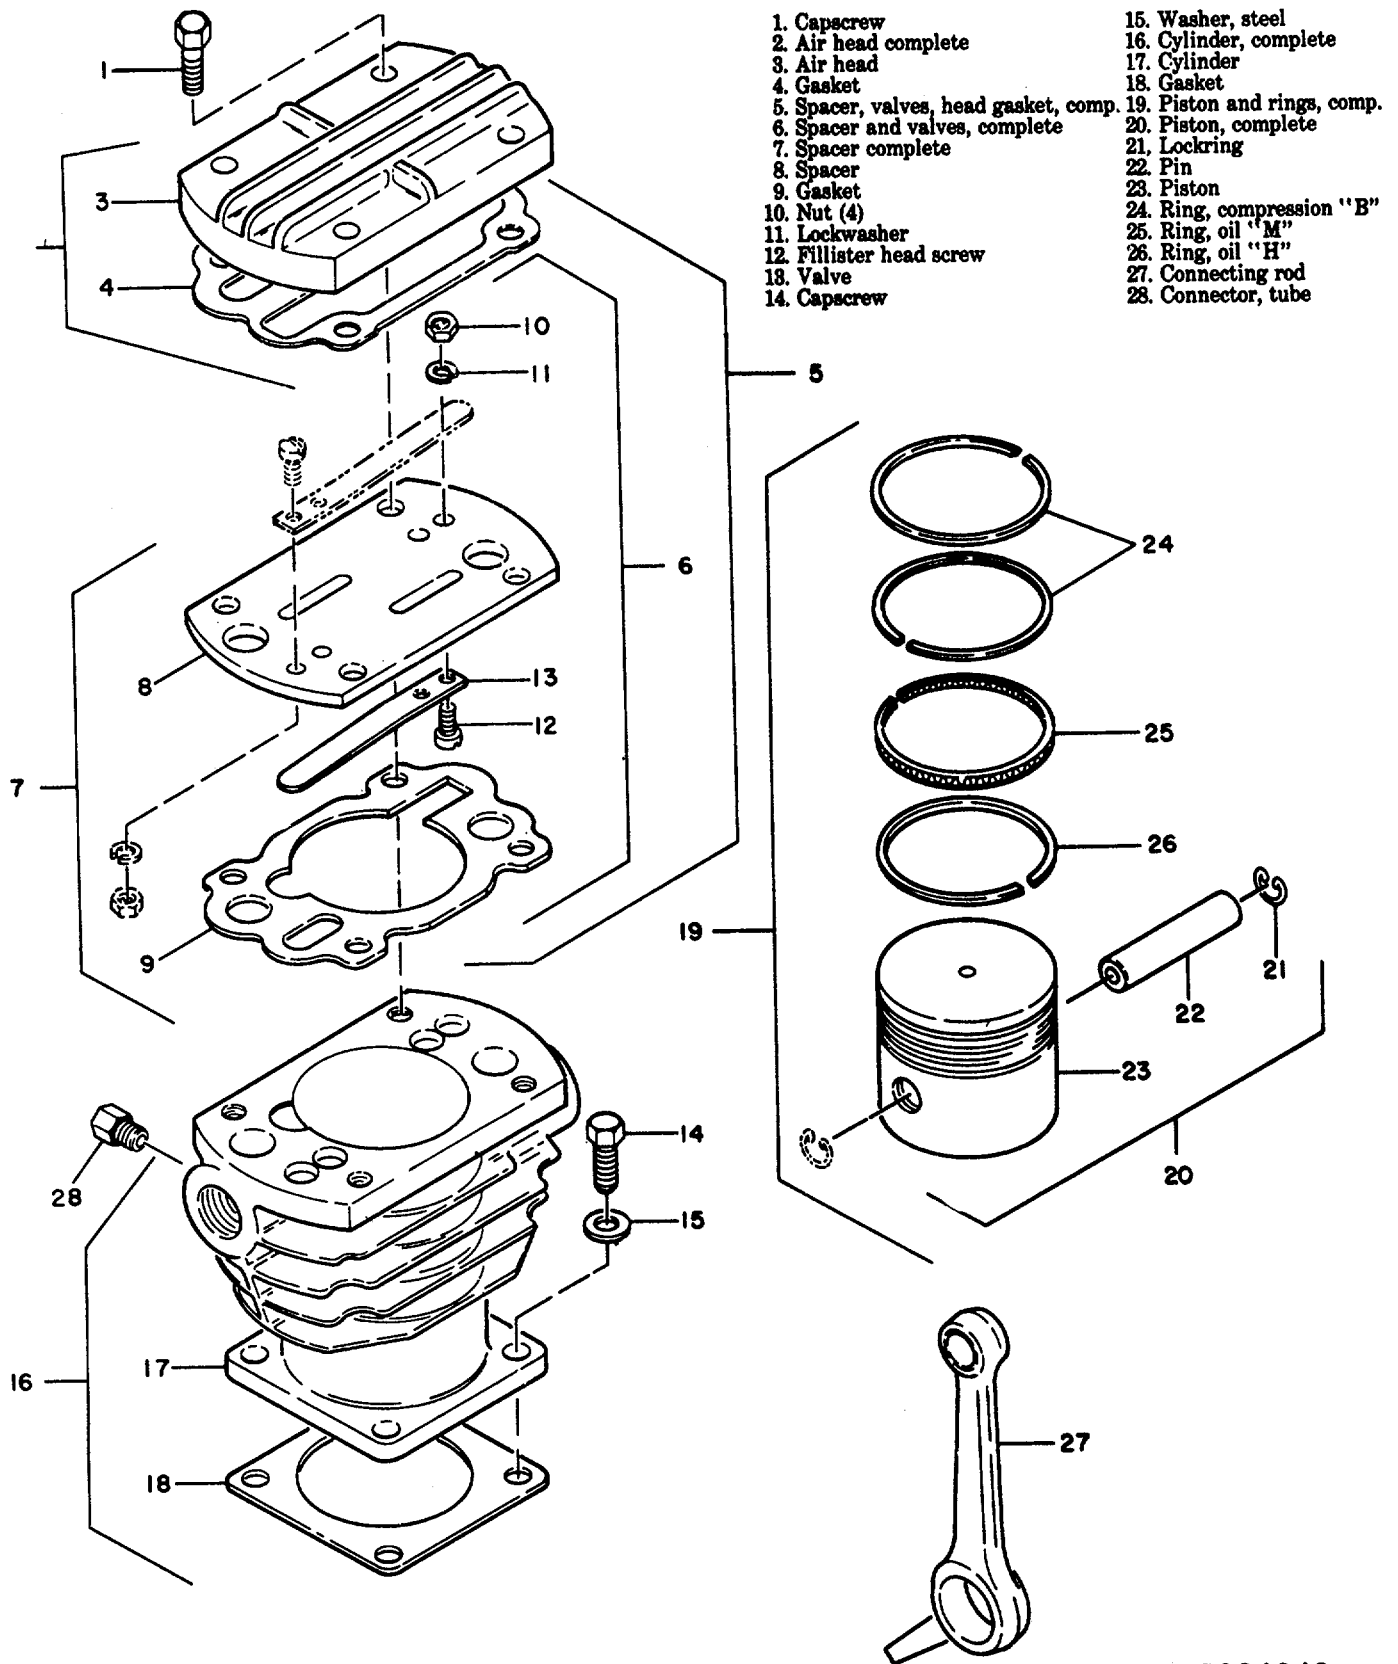

Figure 6-7. High pressure cylinder, piston, rod, and rings removal.
(21) Remove tube connector (25, fig. 6-7) from cylinder (14).
(23) Remove capscrew (1, fig. 6-7) from air head (3).
(24) Remove gaskets (4), valve plate (10), spacer (9) and gasket (8) from cylinder (14).
(25) Remove rings (21, 22 and 23) from piston (20).
(26) Remove lockrings (18), pin (19) and connecting rod (24) from piston (20).
(6) Install connector (25, fig. 6-7) and connecting rod (24). Check clearance between crank pin bushing and connecting rod. It should be between 0.001 and 0.002 in. (0.001 to 0.005 cm). If clearance is 0.0025 in. (0.006 cm) replace bushing and connecting rod.
(7) Measure the clearance between piston pin (19) and piston (20). This is a very close tolerance. It should be between 0.0003 in. and 0.0009 in. (0.0007 and 0.002 cm). If clearance is as much as 0.0012 in. (0.003 cm) replace pin and piston. Install pin (19) through rod (24) and piston (20), and secure with the lockrings (18).